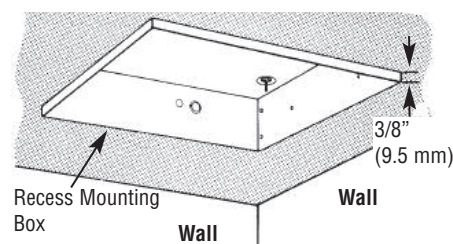

Figure 6
8. Place the recess mounting box in the ceiling opening and align the marks on the sides of the mounting box with the bottom of the finished ceiling (Figure 6). This will position the edge of the mounting box 3/8" (9.5 mm) below the ceiling and will allow the recess face plate to lay flat against the ceiling.